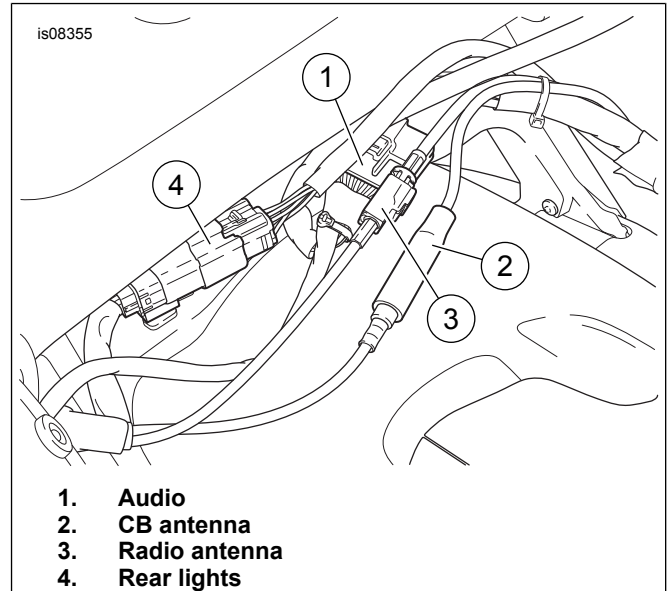

Figure 1. Tour-Pak Connectors
1. See Figure 1. Separate the Tour-Pak[®] electrical connectors.